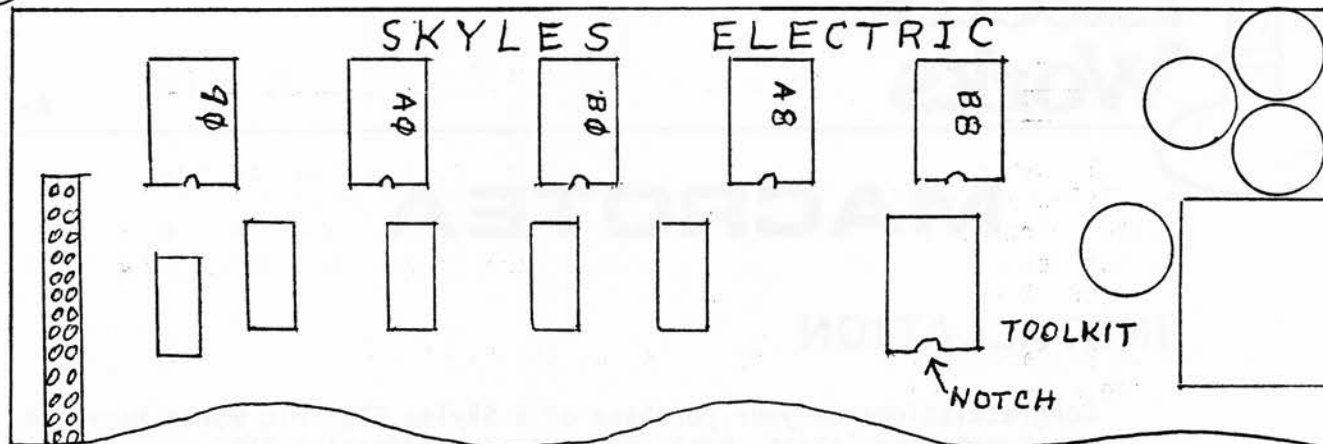

FIGURE 1
1. Remove existing TK80P or TK160P BASIC Programmers Toolkit from the right side port of your PET. Carefully remove the Toolkit "chip" (the biggest device) and install it in the empty socket on your MacroTeA board. Note that the "notch" end of the Toolkit chip is down as shown in figure 1.
1. Remove the TK80S or TK160S BASIC Programmers Toolkit from the Skyles memory expansion board and ribbon cable receptacle. Carefully remove the Toolkit chip and install it in the empty socket on your MacroTeA board. Note that the "notched" end is down as shown in figure 1.
1. Carefully remove the existing TK160N BASIC Programmers Toolkit from the socket on the PET main logic board. Install the TK160N "chip" into the empty socket on the MacroTeA board. Note that the "notch" end of the Toolkit chip is down as shown in figure 1.
1. Remove the TK80E or TK160E BASIC Programmers Toolkit from the ExpandaPet, ExpandaMem memory expansion board. Carefully remove the Toolkit chip and install it in the empty socket on your MacroTeA board. Note that the "notched" end is down as shown in figure 1.
- 5) Plug the red/white, 2 wire cable assembly into pins 21, 22, 23, 24 of the inner row of J9 on the main logic board. See detail - Figure 1.
- 6) Plug the 16 wire gray ribbon cable assembly onto the rear 8 pins of both rows of J4. See detail - Figure 1. Note the red edge stripe should be to the rear. You will cover but not plug into pins 16 and 25.
- 9) Carefully check all cable plug-ins against the instructions and Figure 1 details.